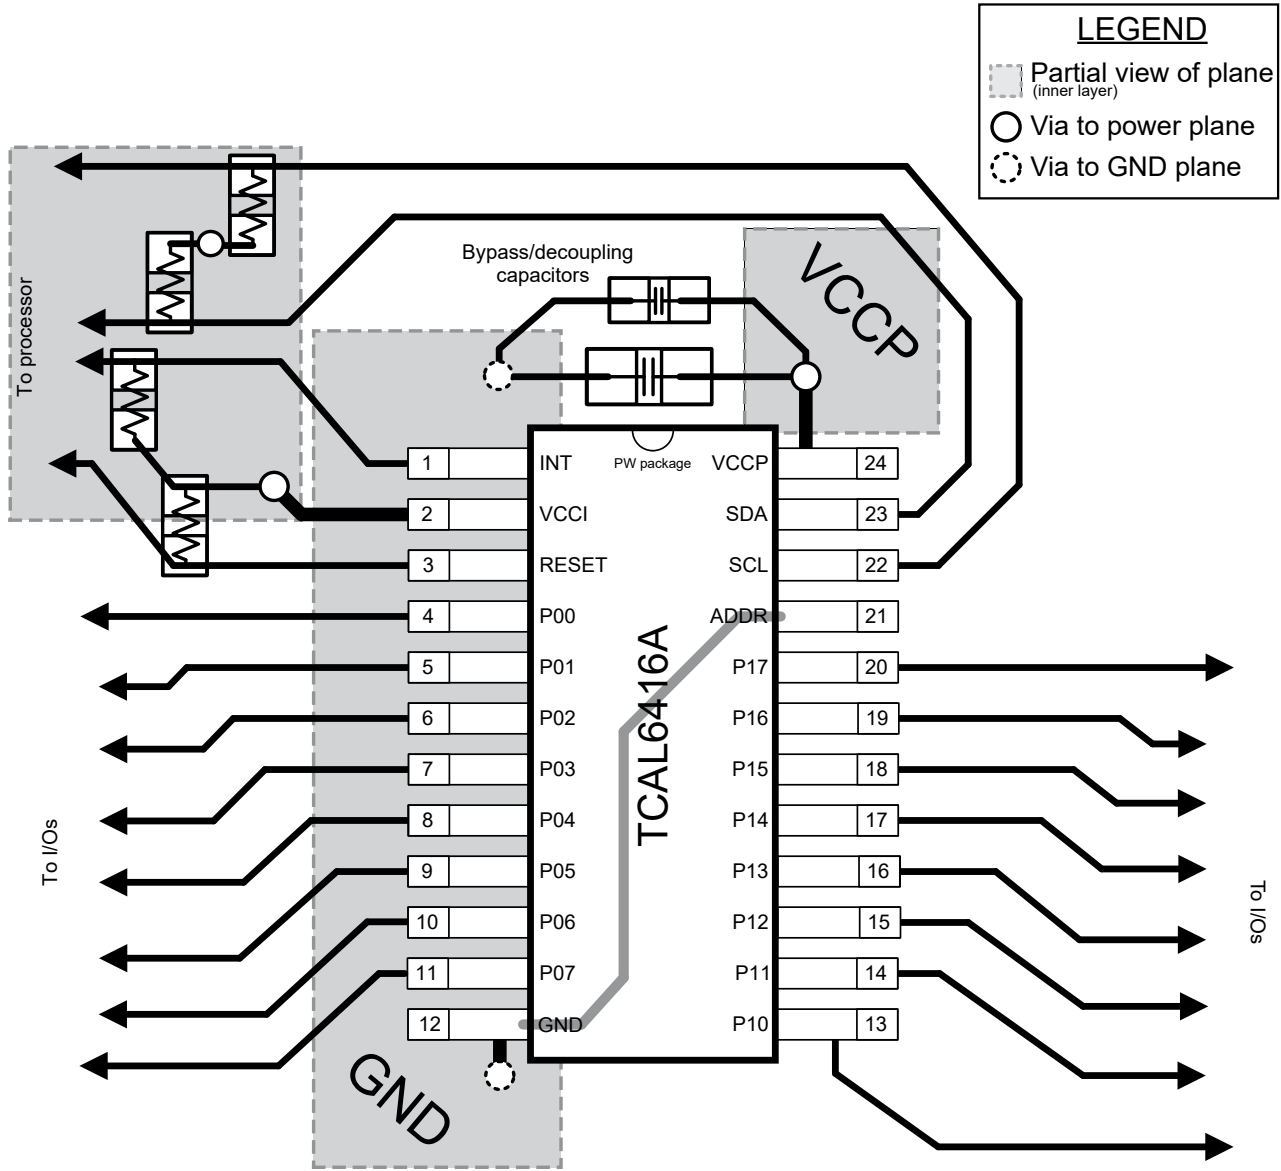

图 9-10. TCAL6416 Layout
In all PCB layouts, it is a best practice to avoid right angles in signal traces, to fan out signal traces away from each other upon leaving the vicinity of an integrated circuit (IC), and to use thicker trace widths to carry higher amounts of current that commonly pass through power and ground traces. By-pass and decoupling capacitors are commonly used to control the voltage on the supply pins, using a larger capacitor to provide additional power in the event of a short power supply glitch and a smaller capacitor to filter out high-frequency ripple. These capacitors should be placed as close to the TCAL6416 as possible. These best practices are shown in 图 9-10.
For the layout example provided in 图 9-10, it is possible to fabricate a PCB with only 2 layers by using the top layer for signal routing and the bottom layer as a split plane for power and ground (GND). However, a 4 layer board is preferable for boards with higher density signal routing. On a 4 layer PCB, it is common to route signals on the top and bottom layer, dedicate one internal layer to a ground plane, and dedicate the other internal layer to a power plane. In a board layout using planes or split planes for power and ground, vias are placed directly
next to the surface mount component pad which needs to attach to power or GND and the via is connected electrically to the internal layer or the other side of the board. Vias are also used when a signal trace needs to be routed to the opposite side of the board, but this technique is not demonstrated in 图 9-10.